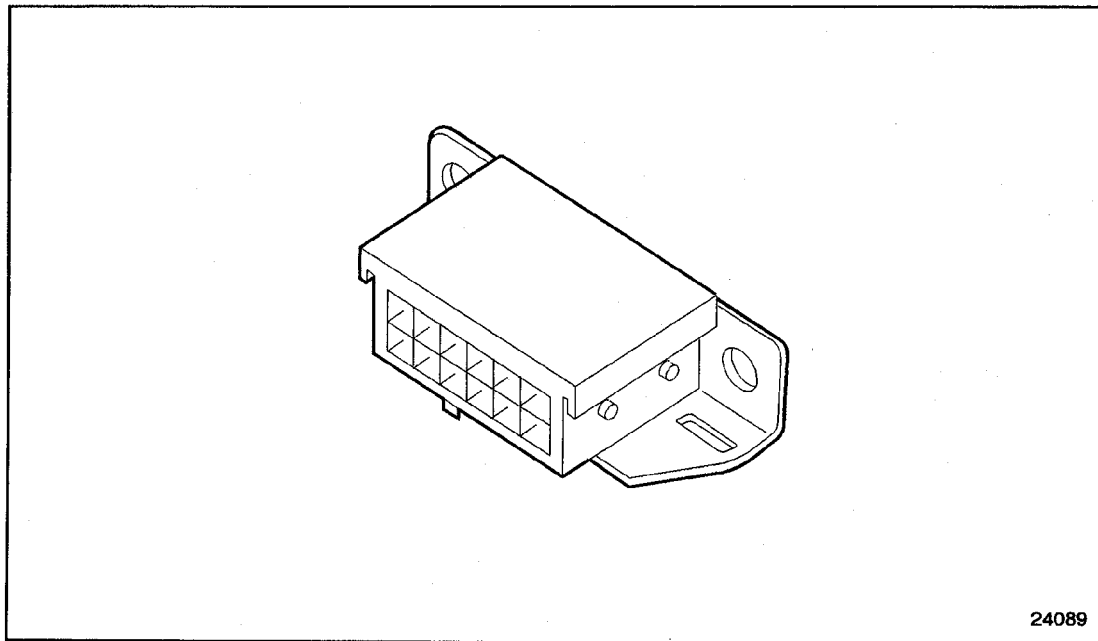

Figure 26-1 Typical Display Data Line Adaptor
1. Install the Diagnostic Data Reader to the vehicles Display Data Line Adaptor, see Figure 26-1; refer to OEM guidelines.